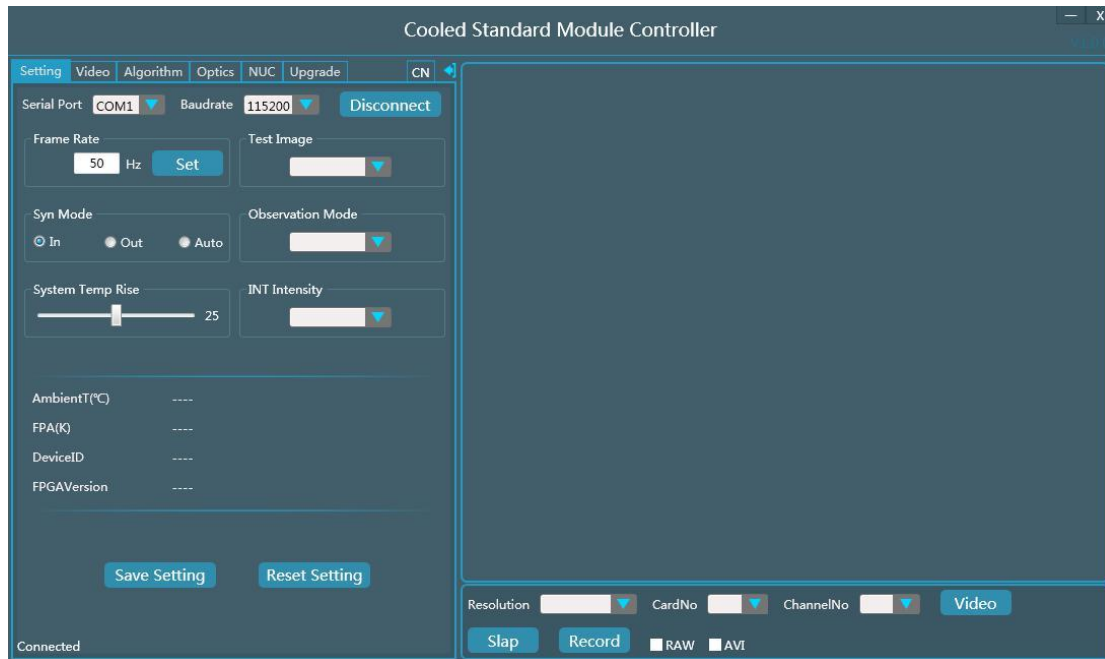

Figure 3-10 Cameralink digital video interface
- 1) After the serial port software is connected to the device, click the button  to expand the Cameralink digital video page, as shown in Figure 3-10. Click the button  and the digital video page is folded.